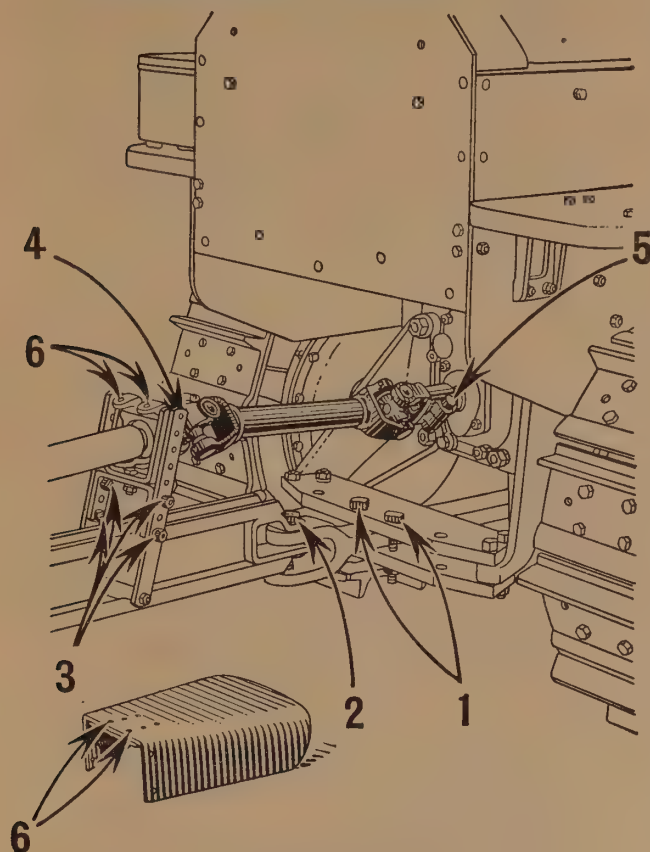

Fig. 40
5. (Figs. 40 and 41.) Slide front splined universal joint onto take-off shaft on tractor and secure in place with clamp bolt.
6. (Figs. 40 and 41.) Bolt power shaft shield to **rear** set of holes in power shaft front bearing housing.
1. Caterpillar "Twenty-Two". (Fig. 40.) Secure swinging drawbar in center of drawbar guide with heavy bolts.
2. (Figs. 40 and 41.) Connect Binder to extension drawbar plate.
3. (Figs. 40 and 41.) Adjust height of power shaft front bearing as shown.
4. (Figs. 40 and 41.) Remove tape around key in front end of telescoping pipe for power drive. Remove cap screw, lugged lock washer and notched retaining washer from front end of telescoping pipe. Slide rear universal joint onto front end of telescoping pipe and replace notched retaining washer, lugged lock washer and cap screw. Be sure to fit bent lug on lock washer into notch in retaining washer and to